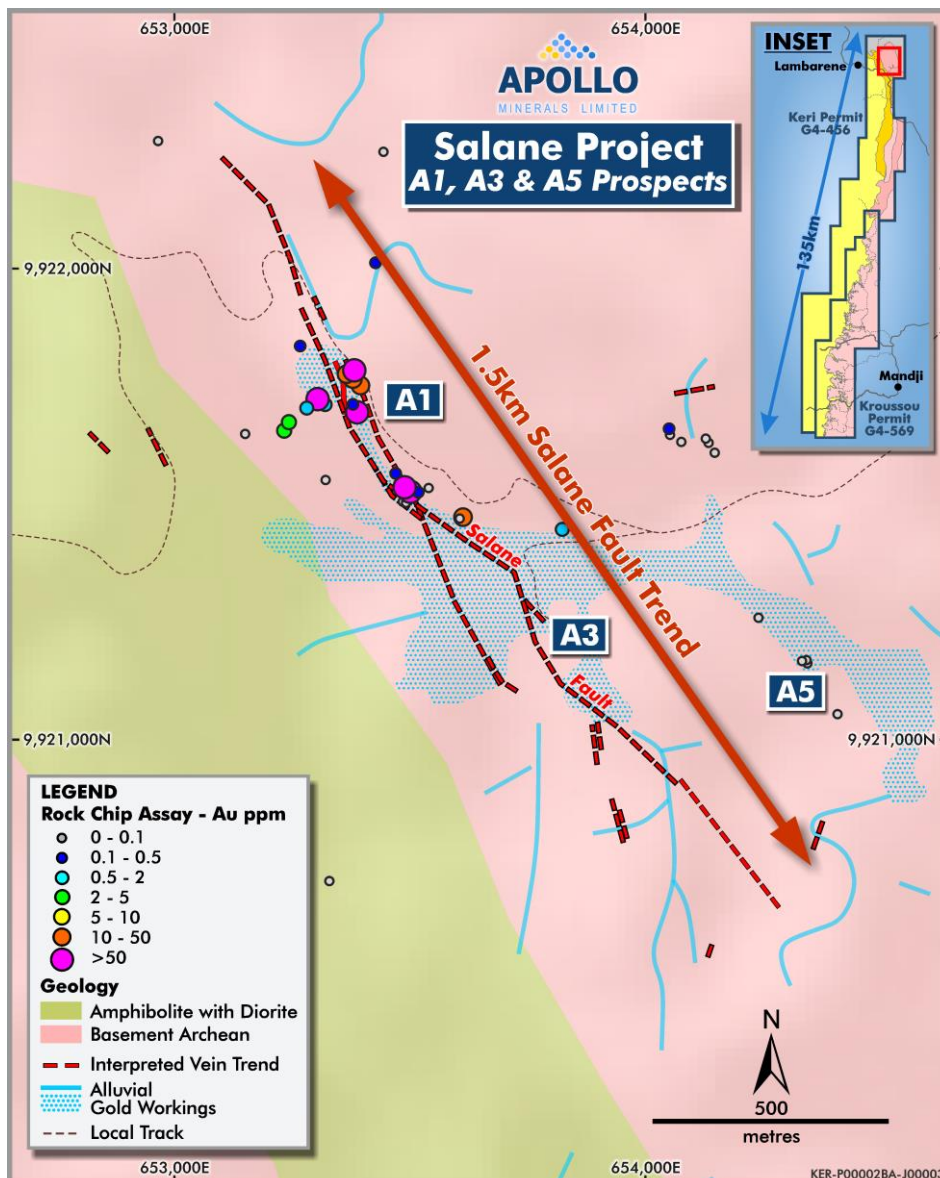

Figure 2: A1, A3 and A5 Prospects displaying rock chip sampling at the Salane Fault System.
- The A1 Prospect is part of the **1.5km long 'Salane Fault' vein system** identified in newly acquired historical mapping from mid-1950's with **numerous historical gold occurrences** noted along the trend (Figure 2);
A total of 448 soil and 100 rock chip and channel samples were taken with results summarised in Figures 2 to 6 and in Appendix 1. These samples have confirmed the presence of mineralisation indicated in newly obtained historical reports and provide an important characterisation of mineralisation styles expected to be seen over the Project including gold in various quartz vein styles and the host country rock (sheared mafic and felsic units and Archean gneiss).